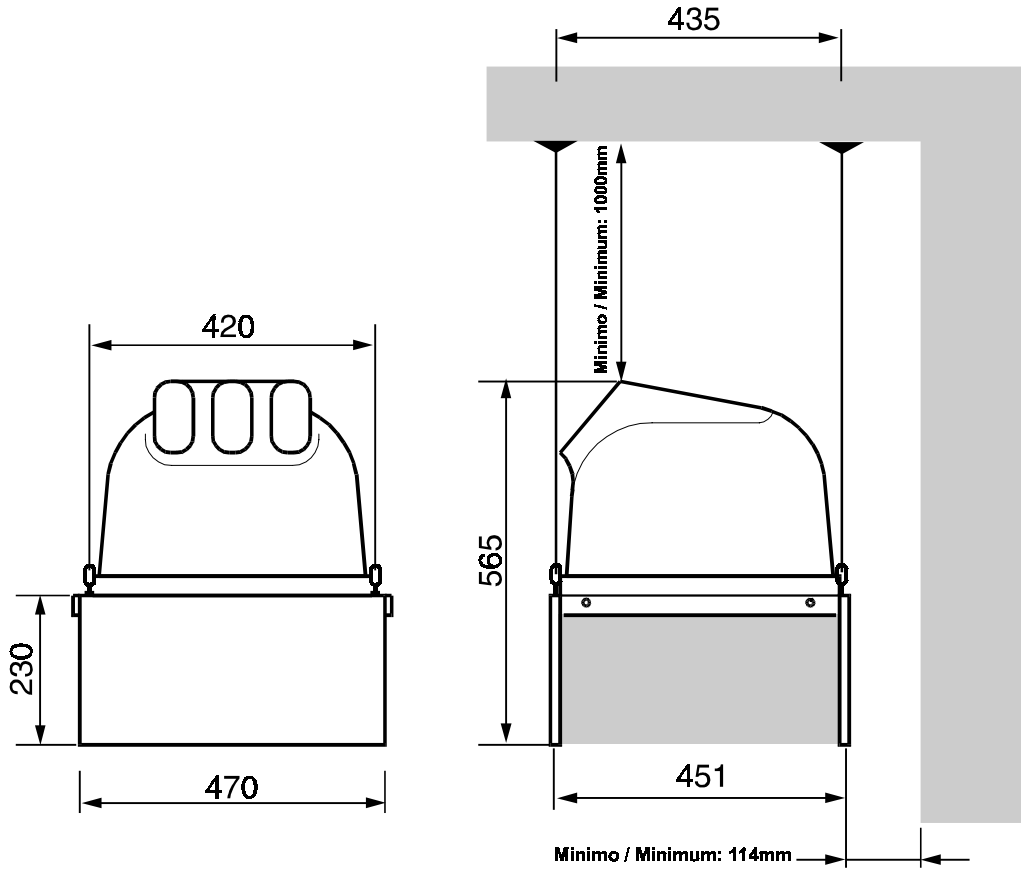
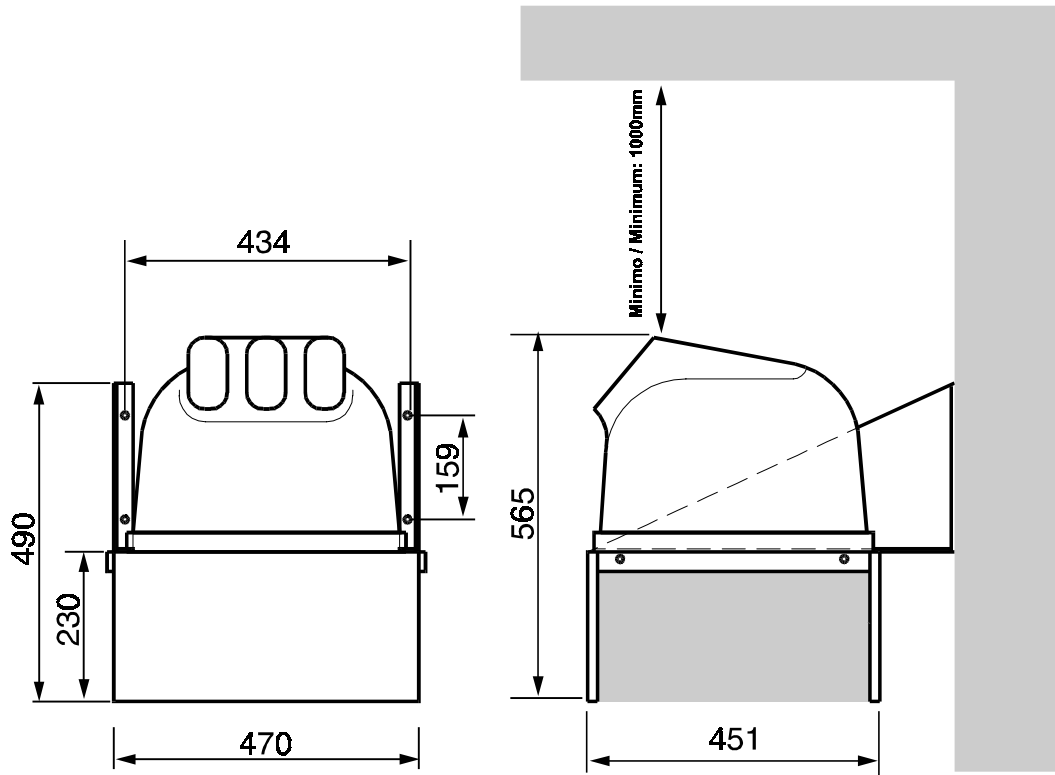
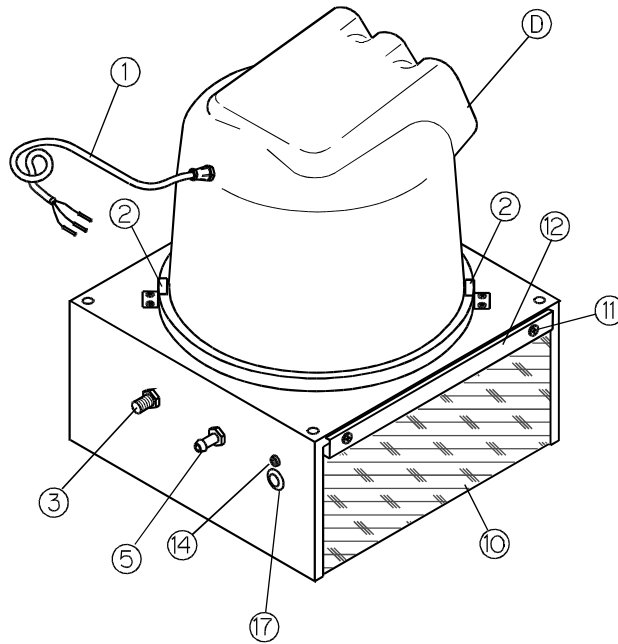

Fig. 1
Fig. 2
Fig. 3
Before assembling the components decide in which direction you want to position the nozzles allowing the atomized water to be spread in the environment. Finally fix the safety fixing brackets (see fig. 3).
To hang the appliance at the ceiling, connect it with chains or metal cables to the rings provided (8), respecting the minimum dimensions indicated in fig.1.
Use the special brackets (9) supplied with the appliance (fig.2). Fix the brackets (9) to the appliance using the screws provided for the purpose.
### 3.2 Hydraulic connections (Fig. 3)
- Connect a rubber hose with 10mm diameter to the overflow connector (Ref. 5) which, in the event of malfunction of the closing float, allows the excess water to flow out (Fig.3).
- Install the appliance in the highest possible position, but keeping a distance of at least one metre from the ceiling (Fig.1, Fig.2).
- Turn the fairing (D) horizontally so that the flow comes out in the desired direction.
- Fit the SAFETY fixing brackets (2) as shown in Figure 3.
- Extract the air filter fixing screws (11) (fig.3).